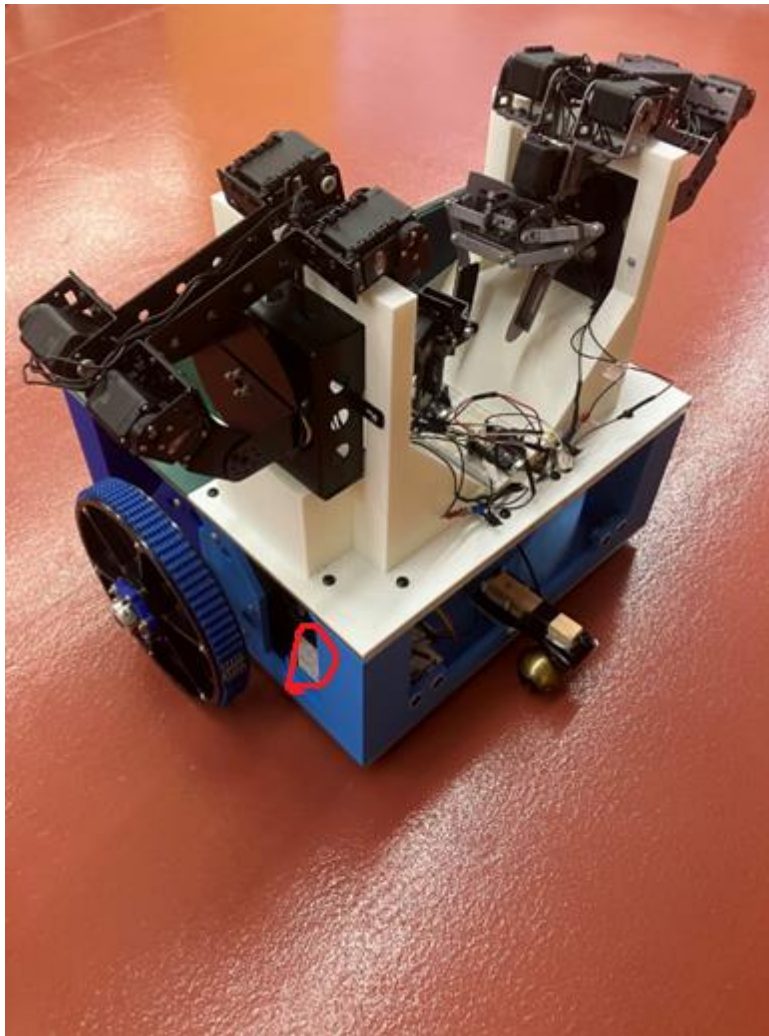

Figure 6a: Location of the 4V Battery (Positive Terminal Will Be Unconnected)
6. Plug in the 4V power supply line to power the Adafruit Feather 32u4 Bluefruit LE boards (refer to Figure 6a and 6b)